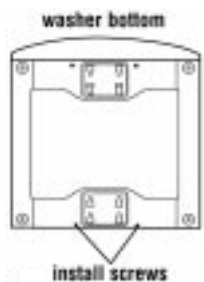

Fig. 2-4
4. Partially install the two (2) lower hex head sheet metal screws leaving a space of about 3/8" (2 cm) between the screw head and the bottom of the washer. (Fig. 2-4)